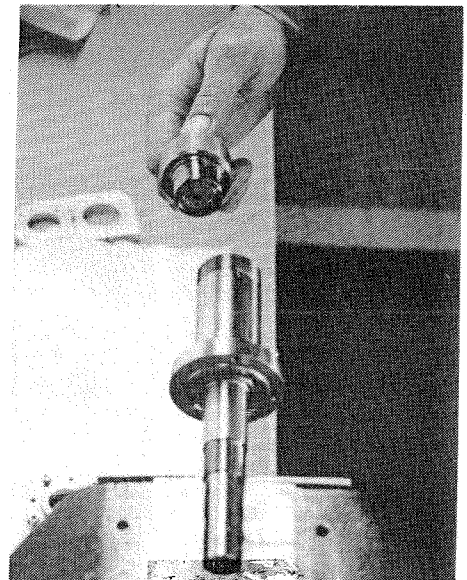

FIGURE 5-10
- B. REMOVE THE SEAL HOUSING, (#3). NORMALLY THE SEAL, (#5), AND BACKUP RING, (#6), WILL COME OUT AS A UNIT FROM THE SWIVEL BODY (FIGURE 5-10).